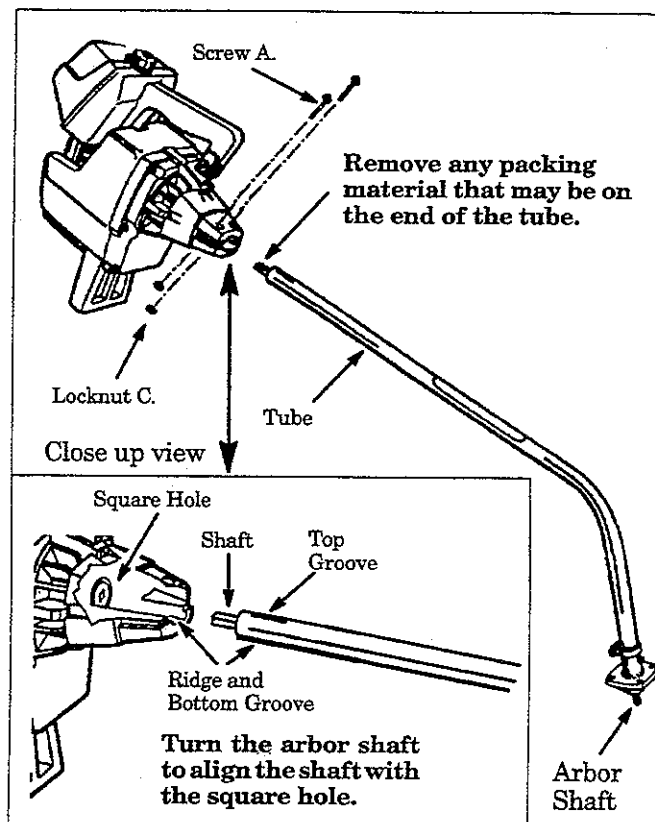

Figure 2
1. TUBE (Figure 2)
- Place the two screws "A." into the holes on the engine as shown in Figure 2.